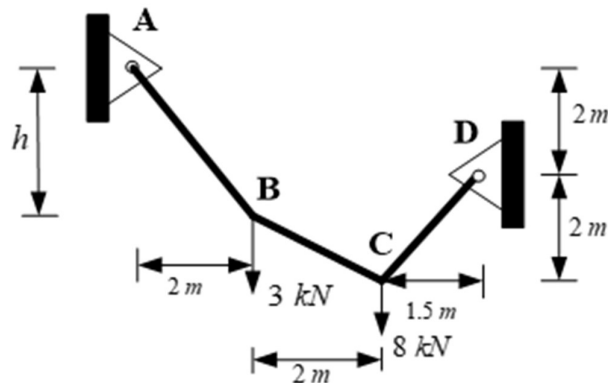

Figure 4 Cable with various segments under point loads
- Q.3(b) Determine the tension in each segment of the cable shown in Figure 4 given below. Also, what is the dimension h? [5] 3 K4